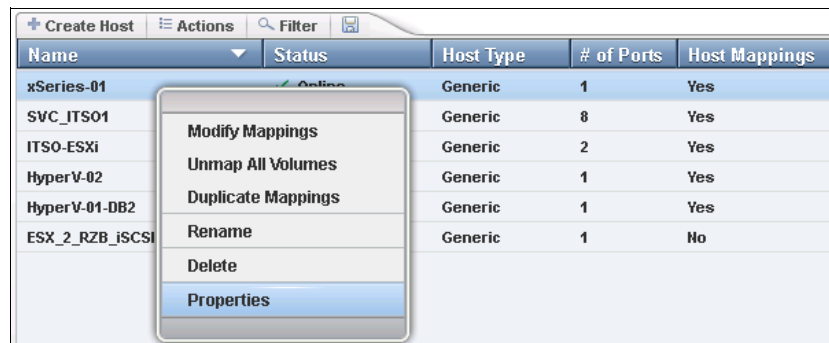

Figure 5-25 Host properties
1. Right-click your Windows 2008 Fibre Channel host in the Hosts view (Figure 5-25) and select **Properties**.